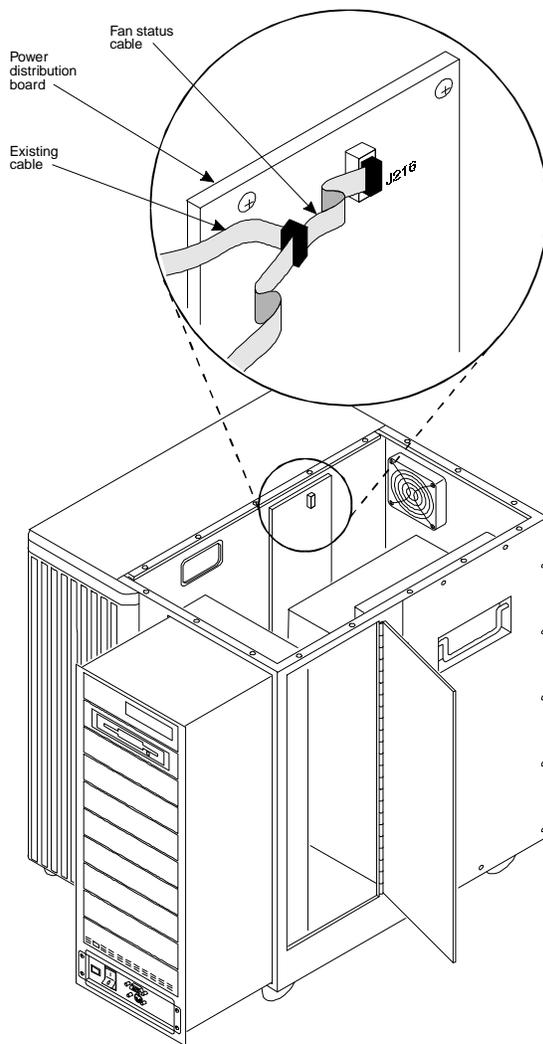

Figure 9-18. Fan Status Cable Connection
4. Verify that the Remote Maintenance circuit card fan status cable is connected to J216 on the power distribution panel as shown in Figure 9-18 and dressed through the same portal into the card cage area as in Step 1.